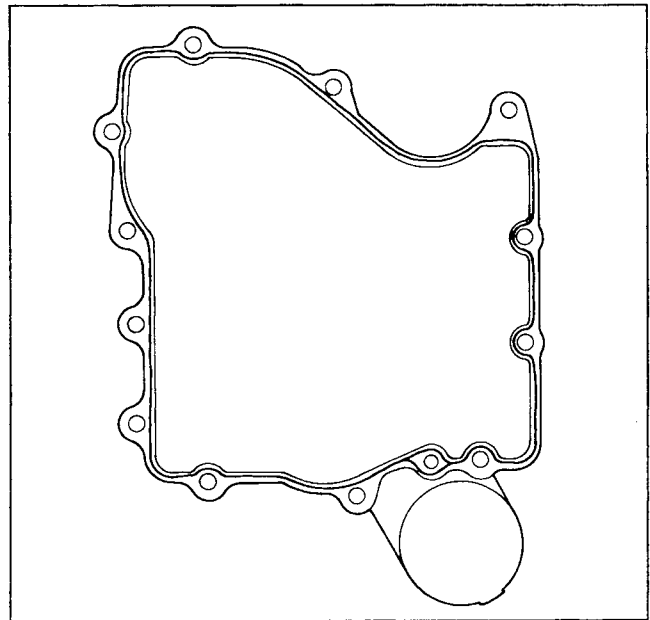

Figure 11-16. Closure Plate Sealant Pattern.
2. Apply a 1/16” bead of sealant to the *closure plate* as shown in Figure 11-16.